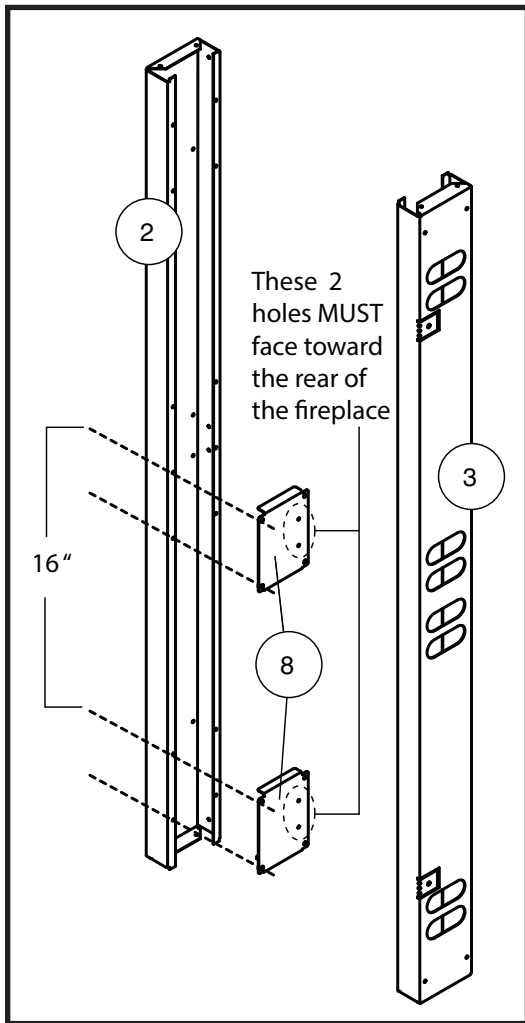
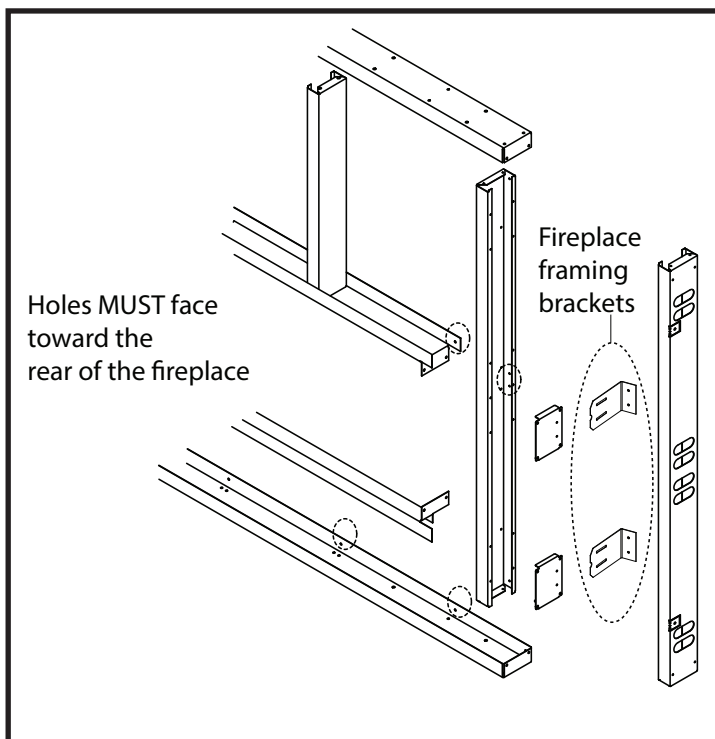

Figure 15: Framing plates
Figure 17: Holes facing to the rear of the fireplace
The parts of this frame are designed so that once the frame is assembled and attached to the fireplace, the face of the frame will be free of all screw heads protruding outward which would interfere with the facing material being applied to the frame. Care must be taken during assembly so that all holes in the narrow side of the frame parts face toward the rear of the fireplace. Figure 17 shows these holes on side of the frame parts.
7. Fasten 2 framing plates (#8) to the outside of each of the 2 side studs (Figure 15) beginning with the lower one. There must be 16 inches from the top of the lower plate to the top of the upper plate when done. Make sure that the two holes in each plate face toward the rear of the fireplace (Figure 15 and Figure 17). Also make sure to position the plates so that they line up with the framing brackets on the fireplace (Figure 17).